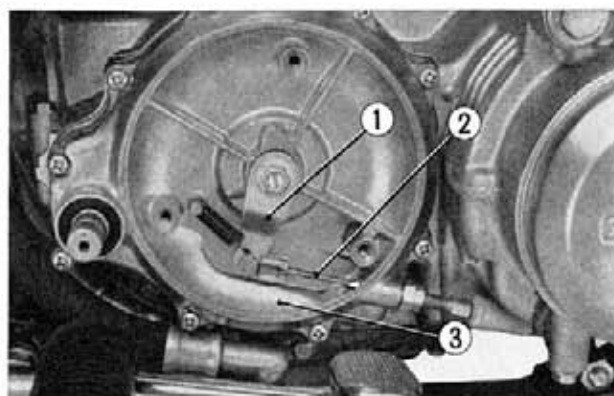

Fig. 4-2 ① Clutch lever
1. Remove the clutch cover and disconnect the clutch cable from the clutch lever. Remove the clutch case mounting screw, and remove the case. (Fig. 4-2)